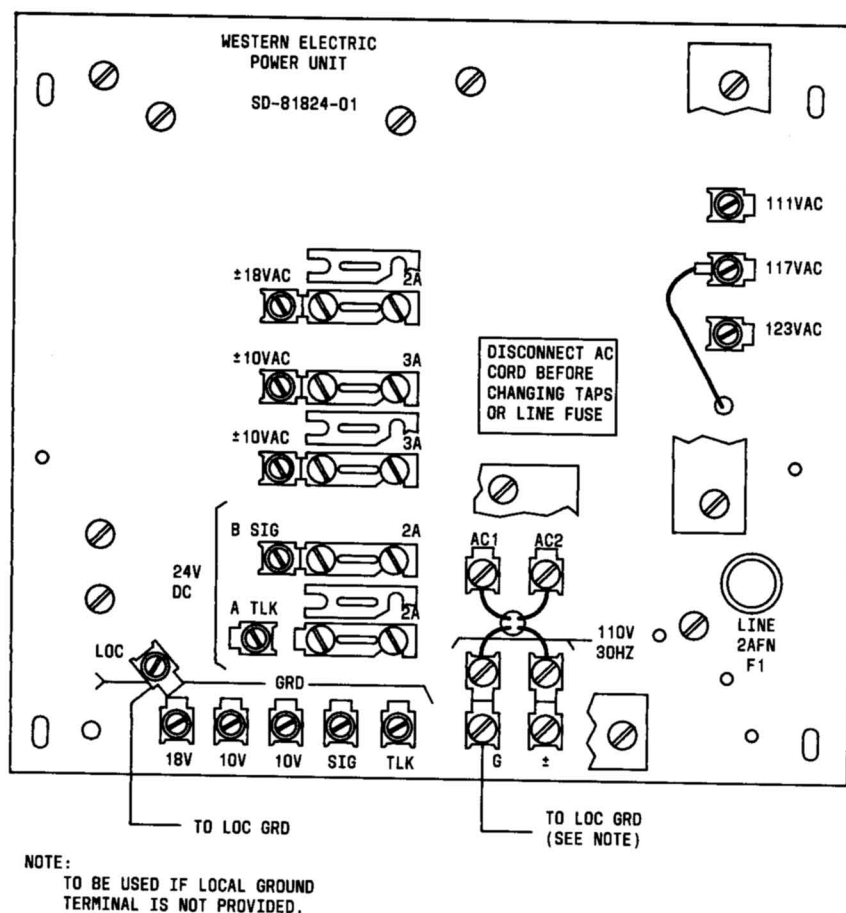

Fig. 5—Wiring Connection for 20A2 Power Unit
4. CONNECTIONS (Fig. 5)
- 4.05** Connect LOC GRD as shown in Fig. 5.
the station ground wiring leads should be connected to their **designated** ground terminals (Fig. 5).